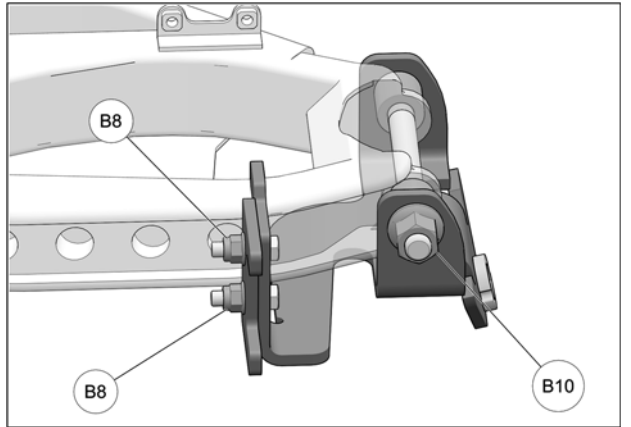

Fig. 14
15. Tighten M14 nut (B10) to 95 N•m [70 lb•ft] of torque and then M8 nuts (B8) to 25 N•m [18 lb•ft]. Fig. 14